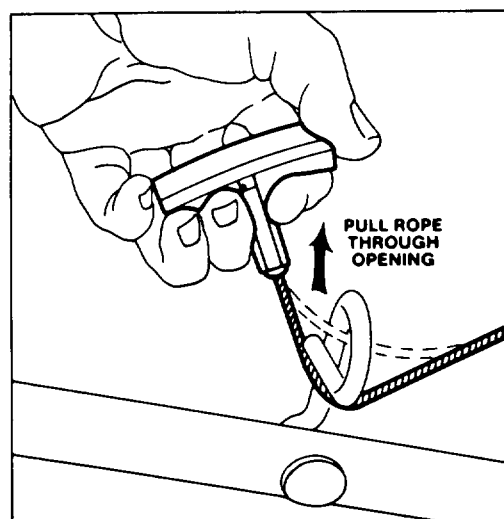

Figure 3
3. STARTER ROPE (Fig. 3) — Pull starter rope through opening in rope guide. By squeezing control bar (Fig. 5) against handle, blade brake will release and allow rope to be pulled easily up to rope guide.